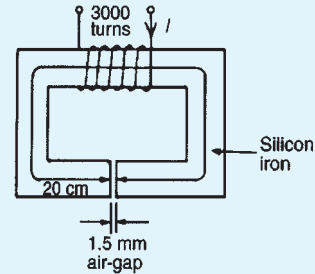

Figure 7.7
- For the magnetic circuit shown in Fig. 7.7 find the current I in the coil needed to produce a flux of 0.45 mWb in the air-gap. The silicon